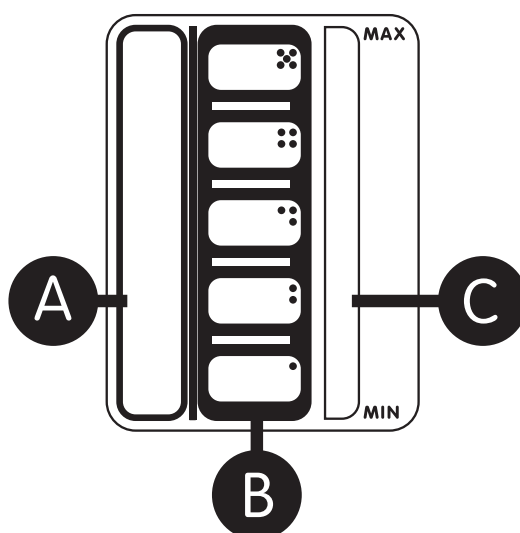

Figure 4.2
This is the main control for the effects in the M.207 and it is separated into 3 components – the Slider Strip (A), the Button Strip (B), and the LED Strip (C). (Figure 4.2)